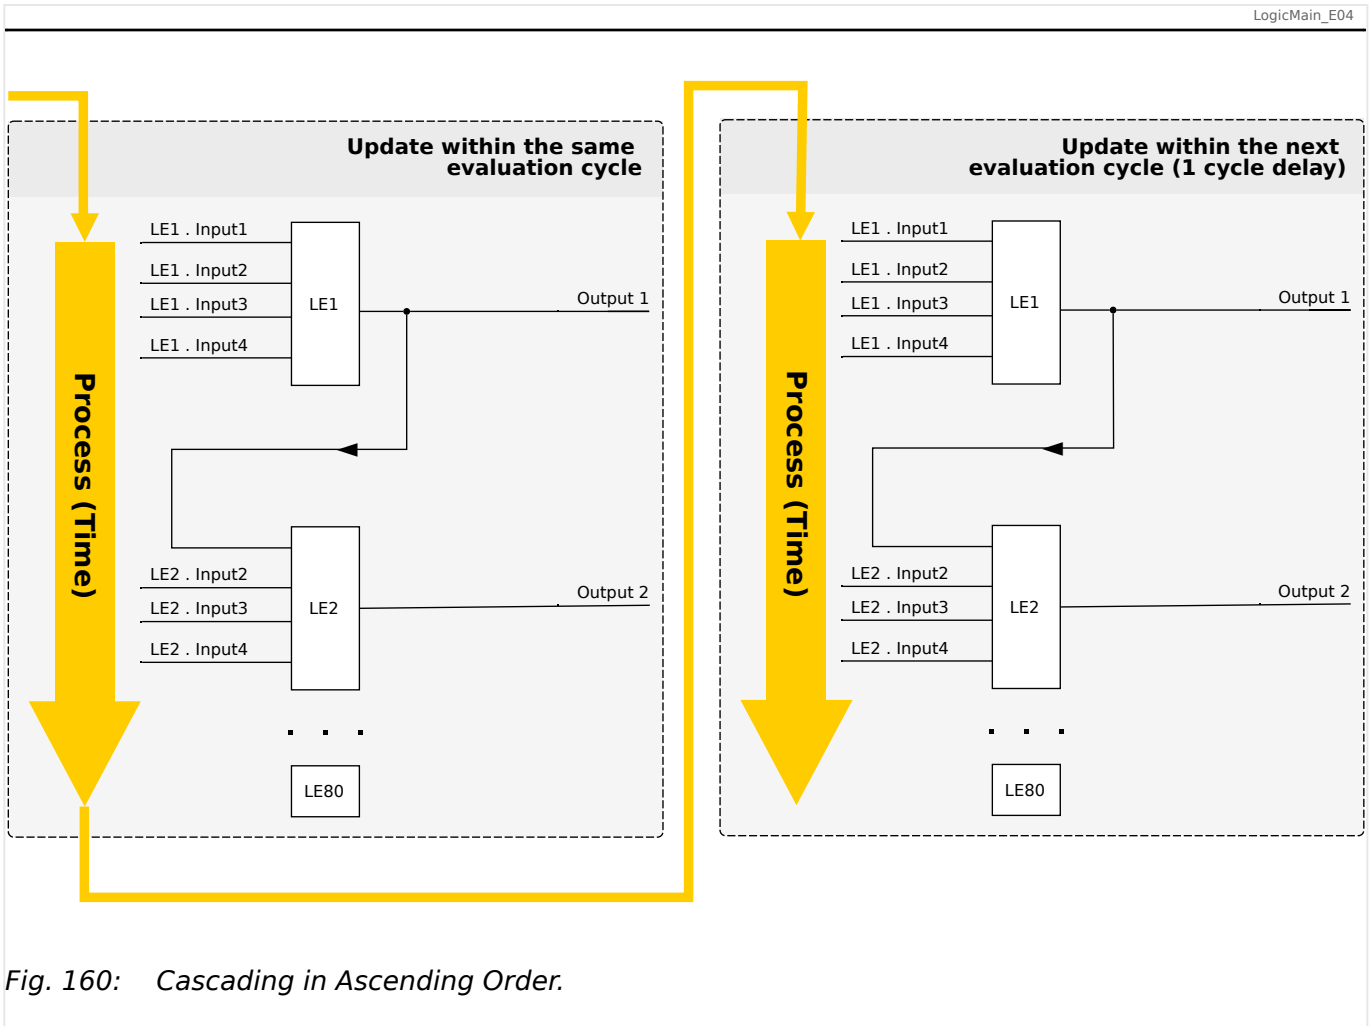
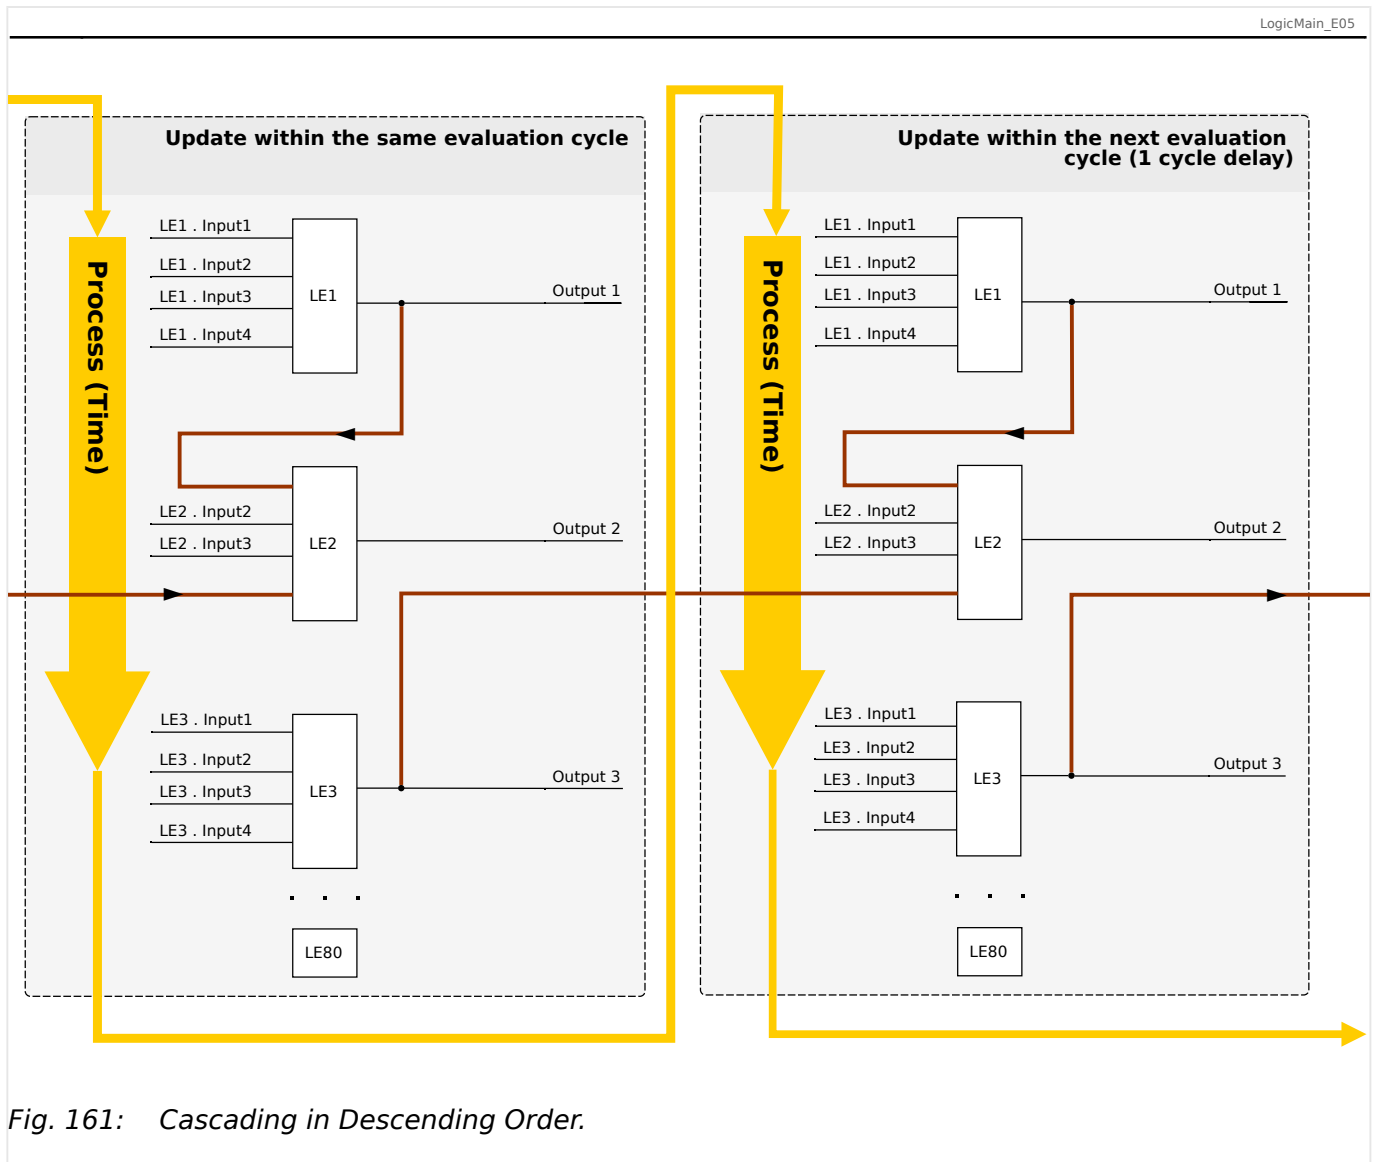

Fig. 160: Cascading in Ascending Order.
Fig. 161: Cascading in Descending Order.
- **Ascending** sequence means that some output is fed into the input of a logic equation with **higher** number. For instance, diagram  Fig. 160 below shows an example where the result of Logic Equation LE1 is used as an input of Logic Equation LE2.
- **Descending** sequence means that some output is fed into the input of a logic equation with **lower** number. For instance, diagram  Fig. 161 shows an example where the result of Logic Equation LE3 is used as an input of Logic Equation LE2.
Both ascending and descending sequences may be used and combined one with the other, with no immediate difference. However, due to the evaluation of all equations in ascending order the actual run-time values that are fed in at the input of an equation will have a different “age”, as is shown in  Fig. 160 and  Fig. 161 below.
In the example shown in Fig. 161 above, “Logic Equation 2” uses the output states of two other equations, “Logic Equation 1” and “Logic Equation 3”. The result of “Logic Equation 1” is used in ascending order and has therefore been evaluated within the same process cycle. The result of “Logic Equation 3” is used in descending order and has therefore been evaluated in the previous process cycle.